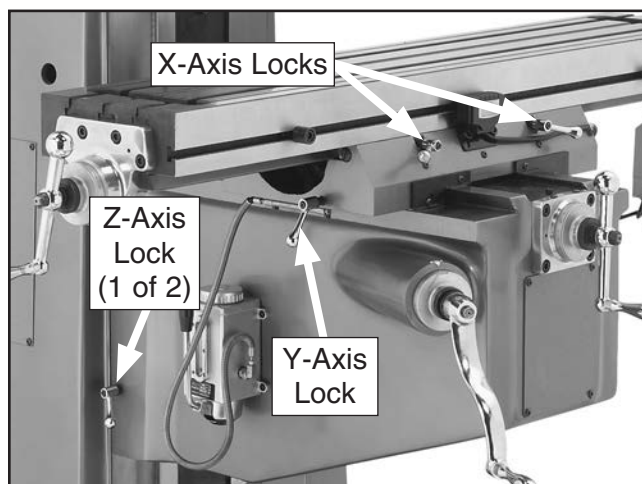

Figure 18. Locations of table locks for each axis.
Refer to **Figure 18** to identify the locks for each table axis.
1. Loosen the X-axis table locks (refer to **Figure 18** on **Page 27** for locations).